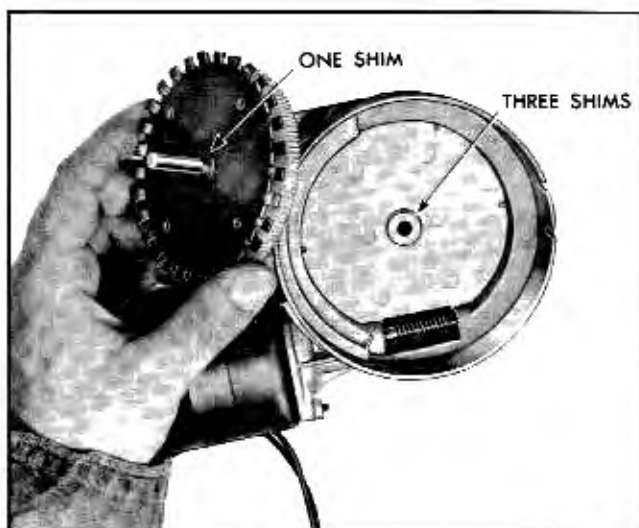

Fig. 14-12 Removing Pressure Liner and Springs
9. Remove gear and pulley assembly and shims, noting number and position of shims (Fig. 14-12).
3. Install gear and pulley assembly and shims which were originally removed (Fig. 14-12).